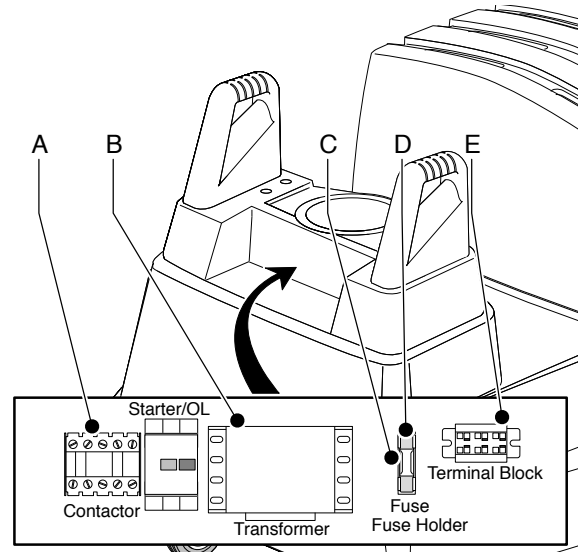

Fig. 15
Note: If the control panel has the Contactor, Transformer, Fuseblock/Fuse, and Terminal Block already installed (as in Fig. 15), skip to the next step “Making the connections at the Control Panel.”
Use the seven supplied screws to mount the pieces of the Transformer Relay Kit in the Control Panel of the Mobiflex unit as shown in Figure 15. Use the two smaller screws to mount the terminal block (E), one of the larger screws to mount the fuse holder (C), and the four remaining large screws to mount the transformer (B).